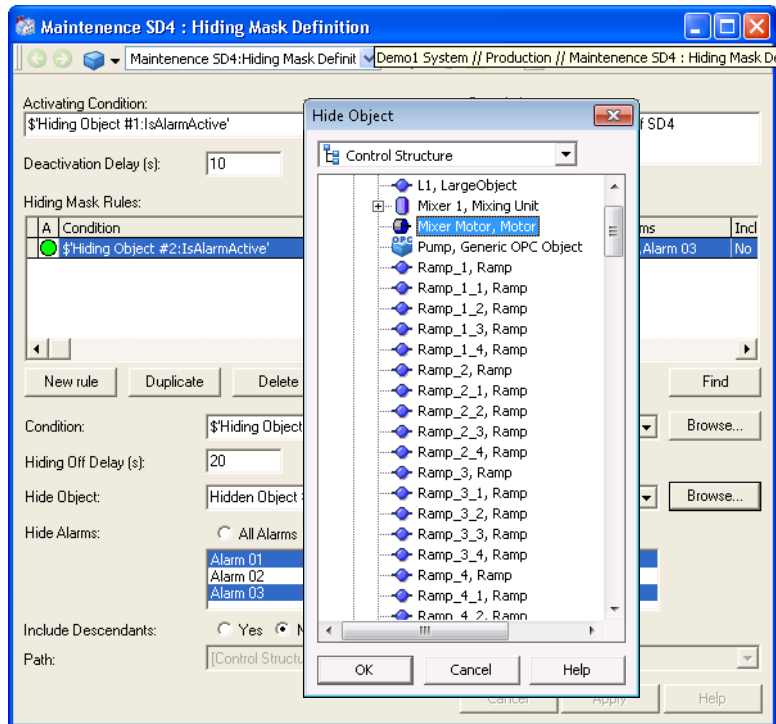

Figure 43. Hide Object Dialog Box
13. Select the object to be hidden and click **OK**, refer to Figure 43.